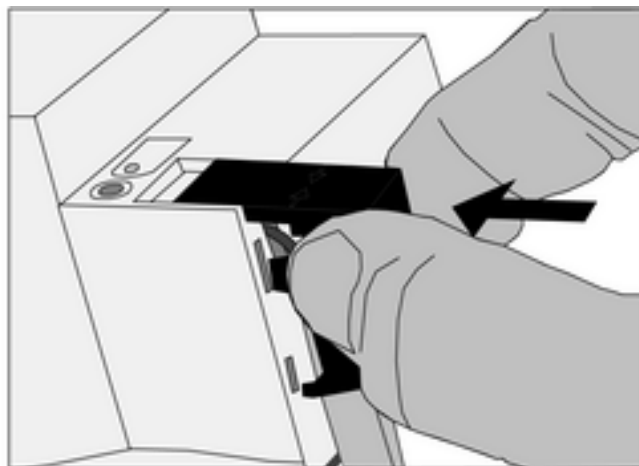

Figure 9: Installing the cover
- Install cover on top of the bus terminal so that it snaps into place (figure 9).